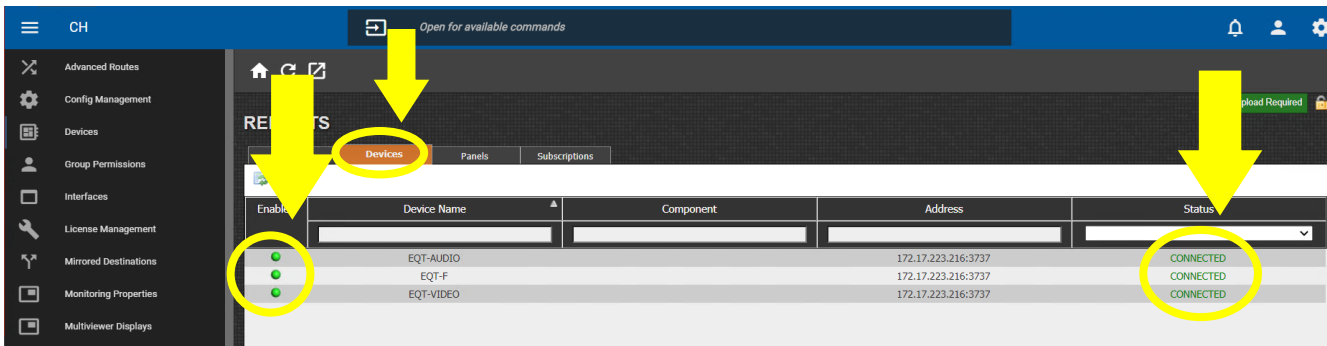

Figure 9-10: MAGNUM - Reports Page
14. Navigate to the Reports page. Confirm that the router, as well as the video and audio levels are present and 'connected' in the Devices tab as highlighted in Figure 9-10.